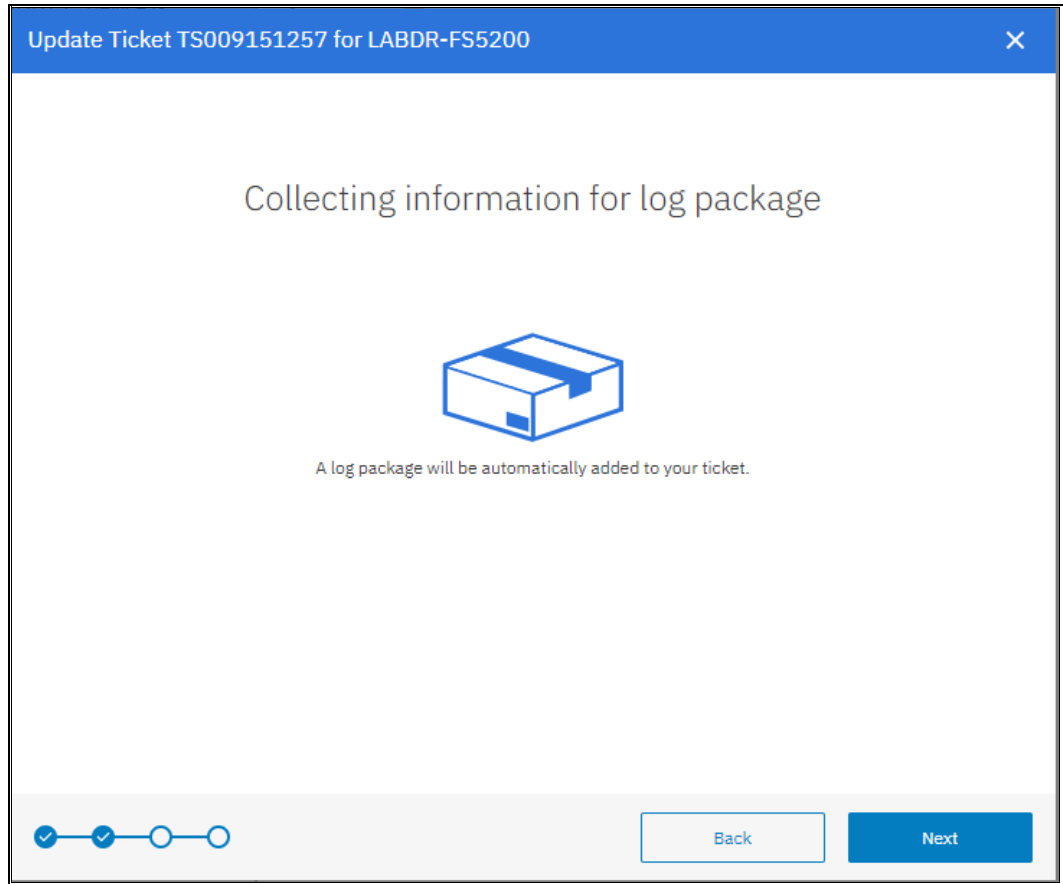

Figure 11-29 Collecting new logs
3. After the type of log is selected, click **Next**. The log collection starts. When completed, the log completion window is displayed, as shown in Figure 11-29.